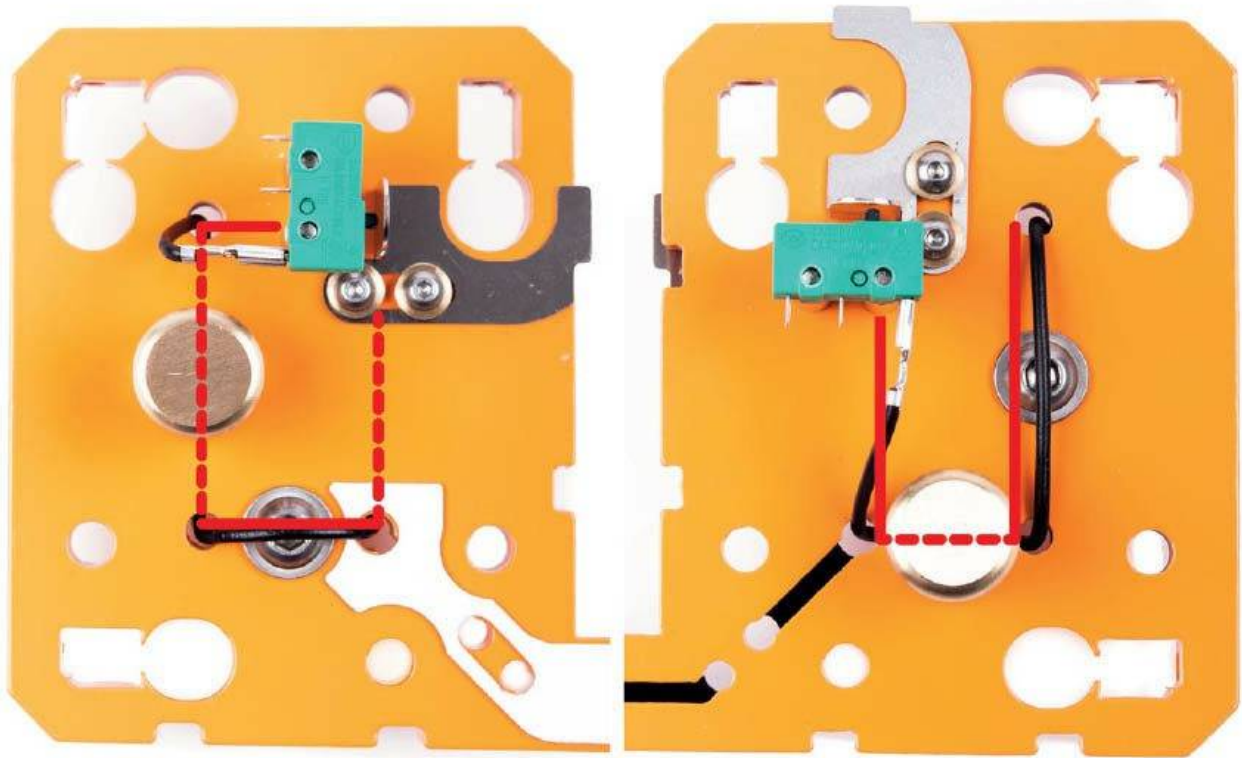

Fig. 2.10 Connecting the end switches
- 14.** Thread the cable as shown in figure 2.10 and, once again, connect the other end of the cable to the outer pin near the black pin.
16. Thread both wires through the cable duct and the holes shown in figure 2.10.